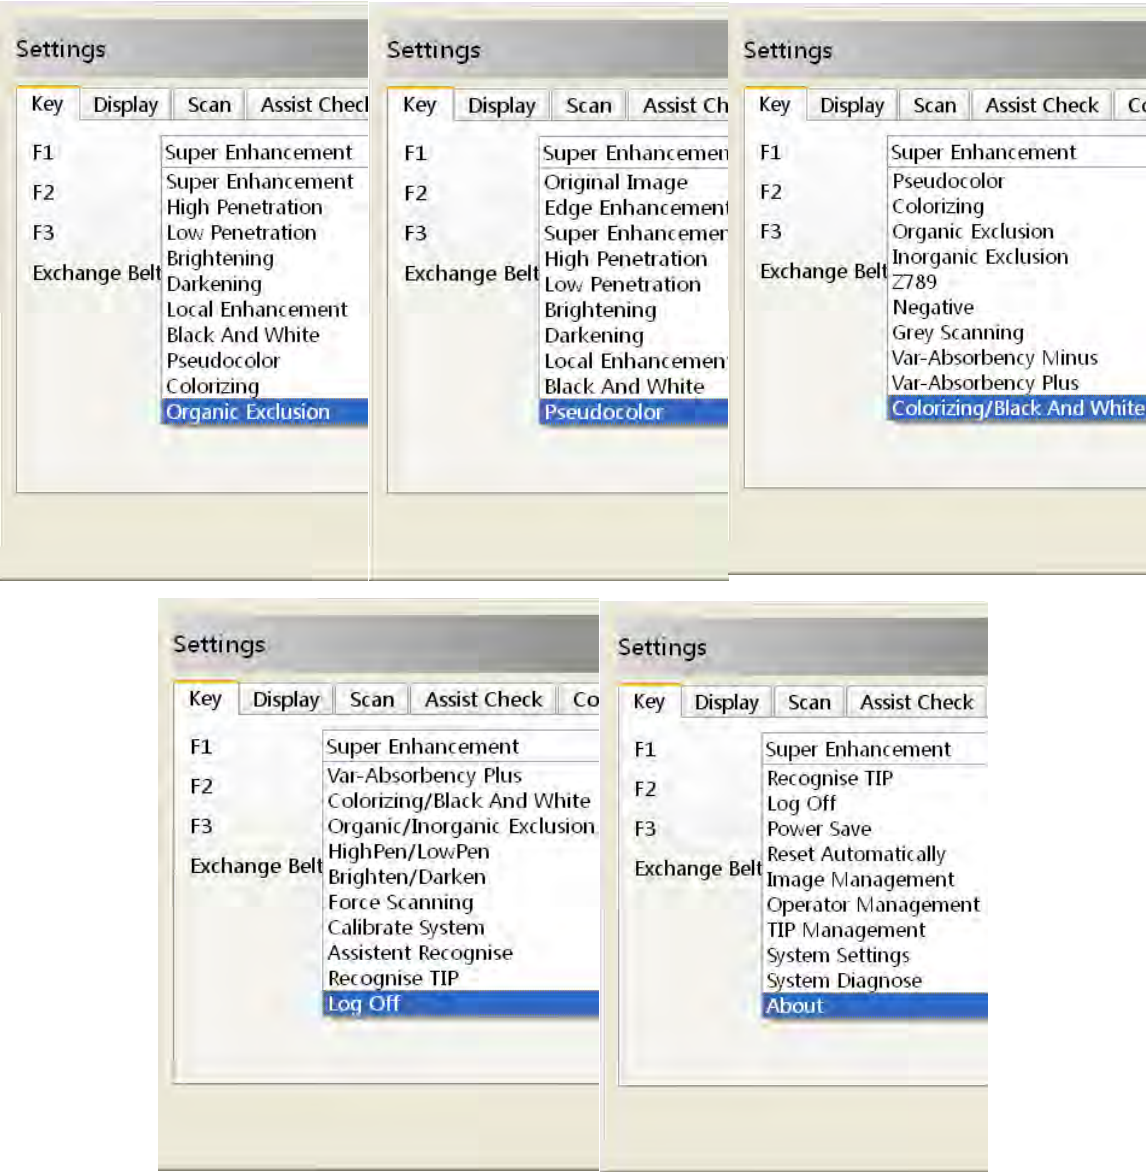

Fig 6.30 Functional Shortcut Setting
- The different functions can be given through the drop-down menus on the right of F1, F2 and F3, such as main menu, scroll to old, scroll to new, zoom-in, zoom-out, origin size, magnifier, default process, original image, edge enhancement, super enhancement, high penetration, low penetration, brightening, darkening, local enhancement, Black and White, pseudo color, colorizing, organics exclusion, inorganic exclusion, Z789, negative, gray scanning, var-absorbency minus, var-absorbency plus, colorizing/ Black and White, organics/ inorganic exclusion, high penetration/low penetration, brighten/darken, force scanning, calibration system, Assistant recognise, recognise TIP, log off, power save, reset automatically, image management, operator management, TIP management, system settings, system diagnosis and about. According to the factory default settings: "F1" stands for "Super Enhancement", "F2" for "Local Enhancement" and "F3" for Negative, as shown in Fig 6.30.